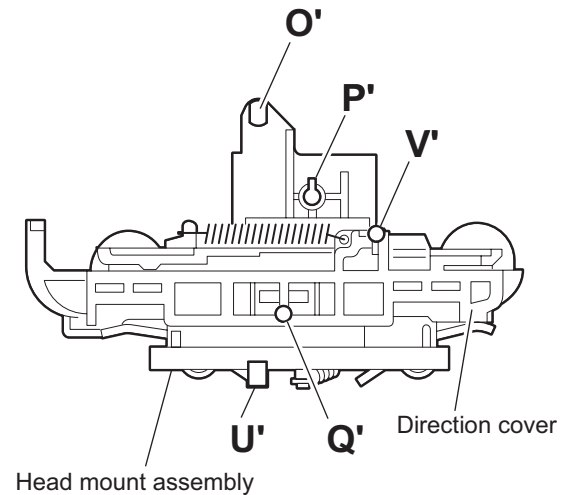

Fig.11
(See Fig.11 to 13)
- (1) Reattaching the head mount assembly.
- b) Fit the bosses **O'**, **P'**, **Q'**, **U'** and **V'** on the head mount assembly to the holes **P** and **V**, the slots **O**, **U** and **Q** of the mechanism sub assembly (See Fig.11 to 13).
- (2) Tighten the azimuth screw for reversing.
- (3) Reattach the spring from the back of the Play head.
- (4) Connect the flexible wire to connector **CN48** on the head amplifier board.